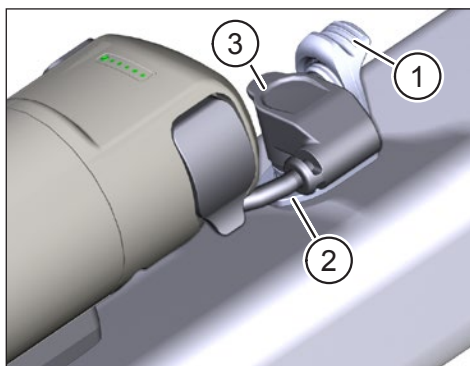

Fig. 8: Connect the connection cable to the charging port
- ▶ Unfold the cover (Pos. 1 in Fig. 8) of the charging port (Pos. 2 in Fig. 8) on the e-bike frame.
- ▶ Align the connector (Pos. 3 in Fig. 8) of the connection cable so that the connector coding of the plug and charging port match.
- ▶ Insert the plug into the charging port and secure the plug with the cover (Pos. 1 in Fig. 8).